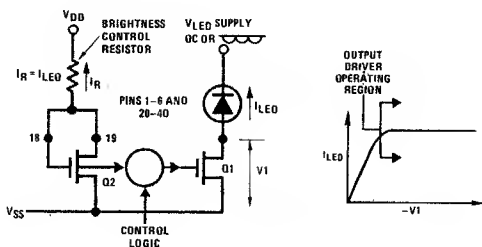

FIGURE 4(a). Low Current LED Drive Control Circuit (1–7 mA)
1) The reference device (pins 18 and 19) is connected as a diode, and an external resistor is used to set the desired current in this diode (see *Figure 4*). The segment drivers of all digits are connected as current mirrors. The drain voltage  $V_1$  of the segment drivers is selected such that these devices operate in saturation mode. Since the drain current variation in saturation mode operation of the MOS device is relatively constant, the segment drive current does not vary significantly, even though  $V_1$  is increased considerably. However, as the voltage across the output buffers increases, average power dissipation also increases linearly. This technique of current control is recommended to be used only with low current LEDs (1–7 mA).